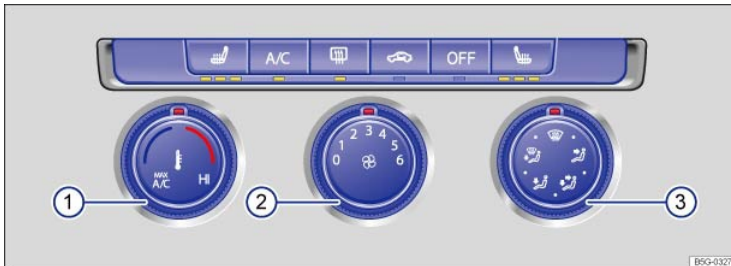
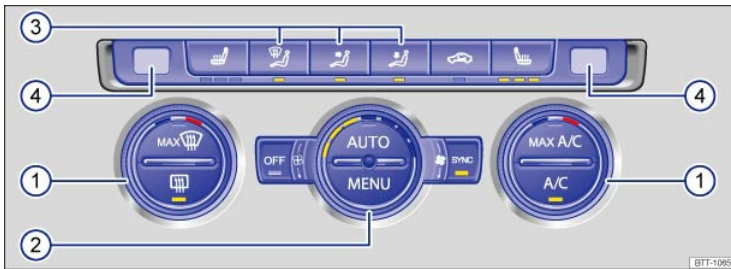

Fig. 102 In the center console: Manual controls.
Fig. 103 In the center console: Climatronic controls.
- *Manual air conditioning*: Turn the fan knob to 0 ⇒ Fig. 102②.
- *Climatronic*: Turn the fan knob as far left as it will go ⇒ Fig. 103②
- **OR**: Press the **MENU** button ⇒ Fig. 103② to open the Climatronic menu in the Infotainment system and switch the system off ⇒ *Climatronic controls in the Infotainment system*.
- *Manual air conditioning*: Turn the temperature knob ⇒ Fig. 102① all the way to the left (**MAX A/C** position).
- *Manual air conditioning:* Turn the temperature knob \Rightarrow Fig. 102① to set the temperature.
- *Climatronic:* Turn the outside knobs \Rightarrow Fig. 103① to set different temperatures for the driver and passenger sides. The displays above the knobs ④ show the set temperature.
Turn the middle knob \Rightarrow Fig. 102② or \Rightarrow Fig. 103② to adjust the fan speed.
- *Manual air conditioning:* Turn the knob \Rightarrow Fig. 102③ to direct air flow in the desired direction.
- *Climatronic:* Press the buttons \Rightarrow Fig. 103③ to direct air flow in the desired direction. When automatic regulation (**AUTO**) is switched on, air flow is automatically adjusted to a comfortable level.
Manual air conditioning: Turn the right knob to position  \Rightarrow Fig. 102③ to defrost the windshield as quickly as possible. The cooling system switches on automatically to dehumidify the air. When the defrost function is switched on, the air recirculation mode cannot be switched on.
Climatronic: Press the **MAX**  button \Rightarrow Fig. 103① to defrost the windshield as quickly as possible. The incoming outside air is directed to the windshield, and air recirculation automatically switches off. Humidity is removed from the air at temperatures above about +35 °F (+1.5 °C), and the blower is set to a high speed.
Press the **MENU** button \Rightarrow Fig. 103② to open the air conditioning settings in the Infotainment system \Rightarrow Climatronic controls in the Infotainment system .
Press the **MENU** ⇒ *Fig. 103* button on the Climatronic controls.